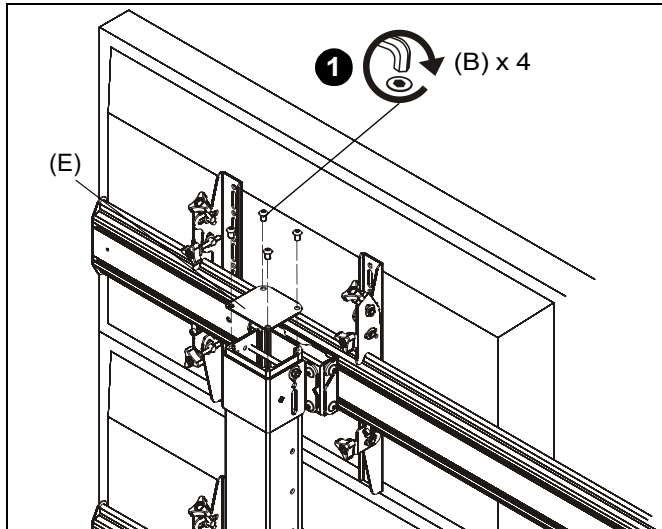

Figure 4
1. Use four 5/16-18 x 1/2" button head cap screws (E) to install each column cap (B) to each column. (See Figure 4)